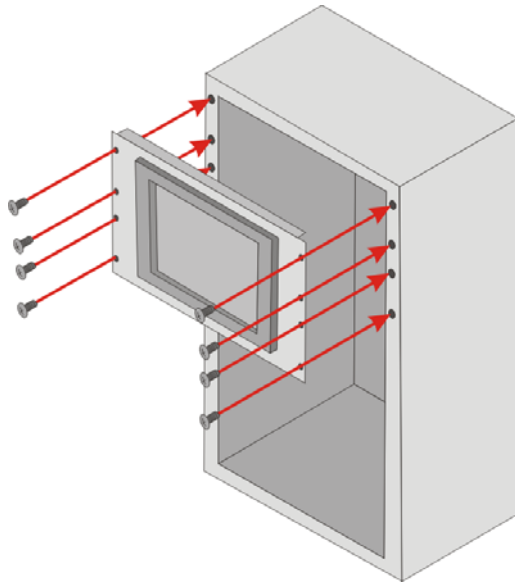

Figure 4-11: Install into a Rack/Cabinet
Step 4: Slide the flat panel PC with the attached rack/cabinet bracket into a rack or cabinet (Figure 4-11).
Step 5: Once the flat panel PC with the attached rack/cabinet bracket has been properly inserted into the rack or cabinet, secure the front of the rack/cabinet bracket to the front of the rack or cabinet (**Figure 4-11**).